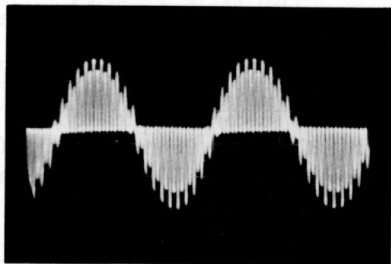

Figure 17. Trace Obtained at Pin 6 of V-5, with L-4 Adjusted For Minimum 19 Kc Signal
1. Connect oscilloscope direct probe to pin 6 of V-5. Set the 19 KC SUBCARRIER LEVEL control fully clockwise, and the FUNCTION switch to "INT TEST". Adjust L-4 to obtain minimum 19 kc signal in the center of the trace. See Figure 17.